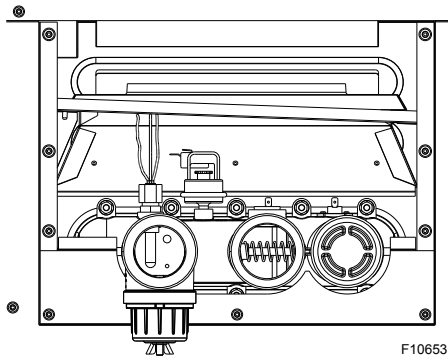

Figure 30. Component Wiring Locations - In/out Header
- Disconnect wires at high limit, AGS (automatic gas shutoff), water pressure switch on the in/out header and ProTek Shield bonding wire. See **Figure 30**.